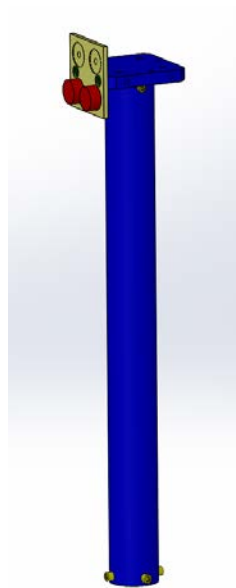

Figure 5: Lo Tube magnet placement
3. Attach D1000930 - SLC MAGNET HOLDER STEEL PLATE to D1002618 - SLC TUBE LOWER CONNECTOR PLATE, see Figure 5.